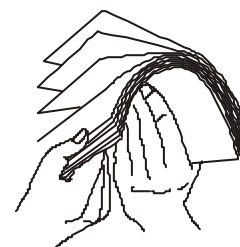

Fig. 11 Fanning the Paper
- Obtain a fresh ream of paper. Best results will be obtained using regular copier or laser printer paper (see "Paper Quality Guidelines"). Hold the ream on the long edge and bend it in and out. Repeat on the short edge. Square it off properly (Fig. 11).